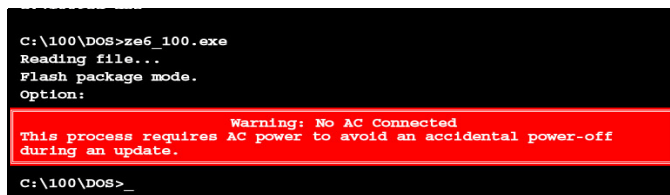

Figure 2-15. AC Power Warning
5. Execute **zQR_101.exe** to update BIOS. Flash process begins as shown in Figure 2-15.
If AC power is not connected, the following message is shown (Figure 2-15). Plug in the AC power to continue.